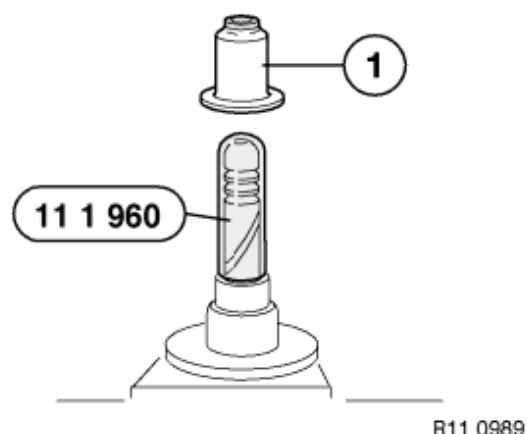

Figure 5-29
5. Coat new valve stem seal (**Figure 5-29, (1)**) with oil and install over tool. Remove special tool OEM No. 11 1 960.